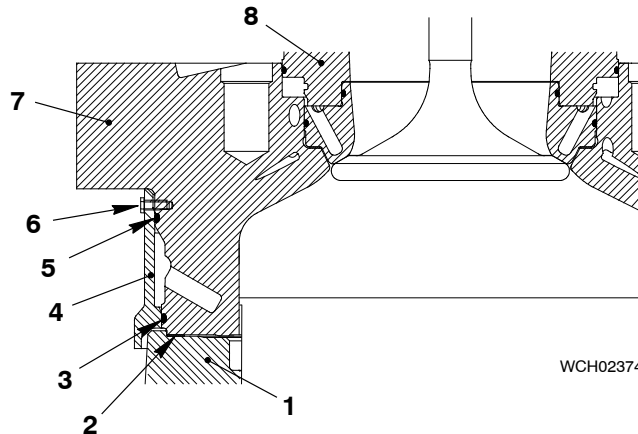
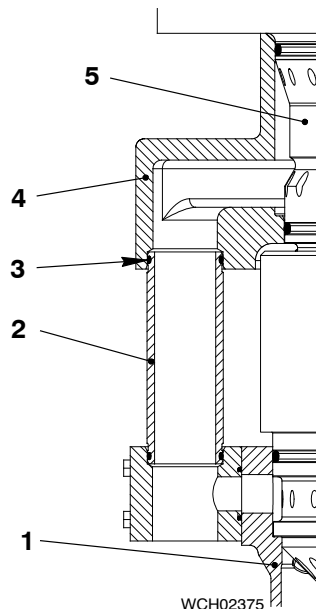

Fig. 9
Fig. 10
- 2) Apply oil to the new O-rings (3, Fig.9).
- 3) Install the new O-rings (3).
- 4) Operate the engine room crane to lift and lower the cylinder cover (7) on to the top water guide jacket (4).
- 5) Tighten the screws (6).
- 6) Install the exhaust valve (8), refer to 2751-1, paragraph 3.
- 7) Clean the seating surface of cylinder liner (1)
- 8) Attach a new soft joint ring (2) to the cylinder liner (1).
- 9) Apply oil to new O-ring (3, Fig.10)
- 10) Attach the new O-ring (3) to the transition tube (2).
- 11) Lift the cylinder cover (5) refer paragraph 3